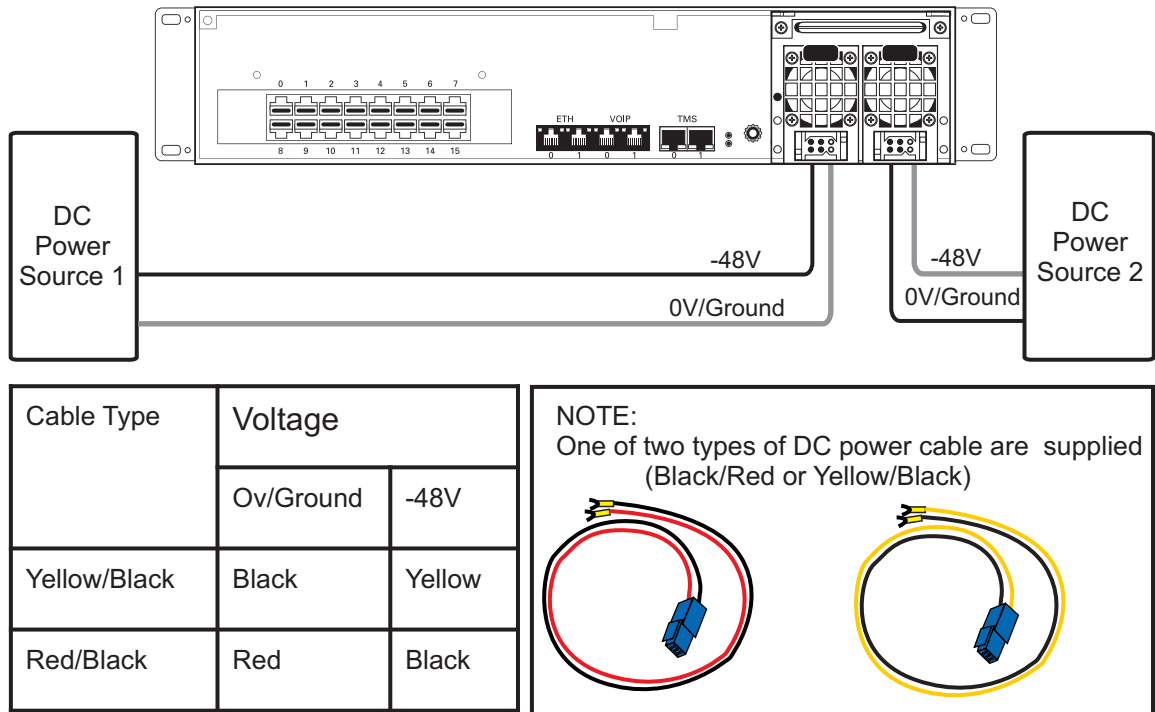

Figure 2.10 3200 Series Gateway DC Wiring Diagram
1. Connect one DC cable, supplied with the 3200 series gateway, as shown in figure 2.10 on page 27, to the rear of the unit.
**Note** Two types of cable with different coloring are available. Refer to figure 2.10 on page 27 for the appropriate wiring information.